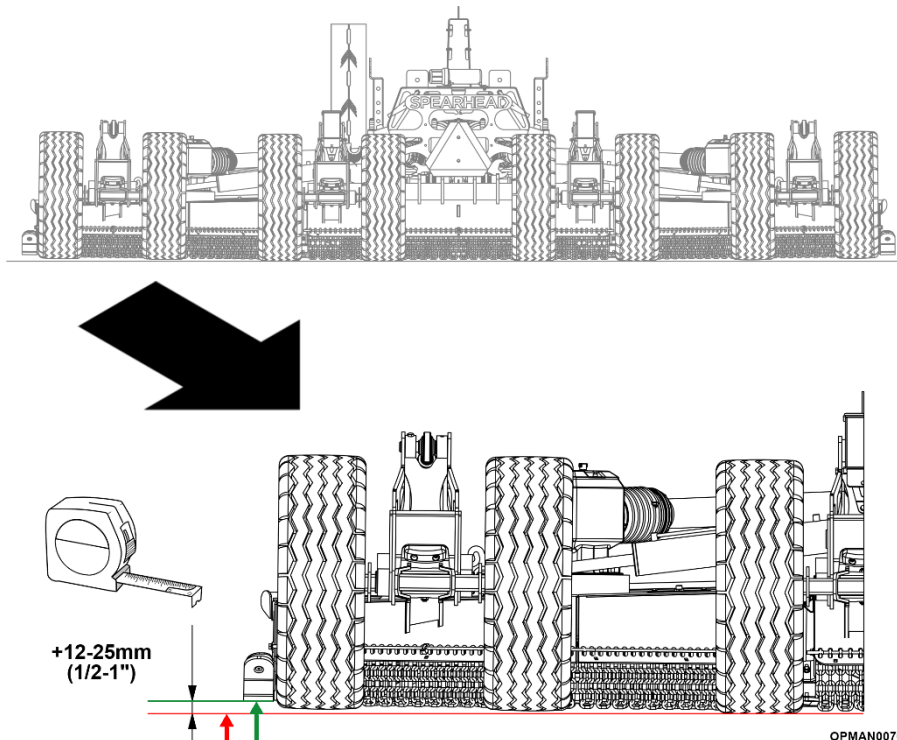

Figure 4.23 – Army Master Wing Height Adjustment
We recommend the wings are set 12 – 25mm (½ “– 1”) higher than the centre chassis, to maintain a level cut; see Figure 4.23.
4.7.2.2 Measure from each end of the top of the chain guards on each wing to the ground; see Figure 4.23.